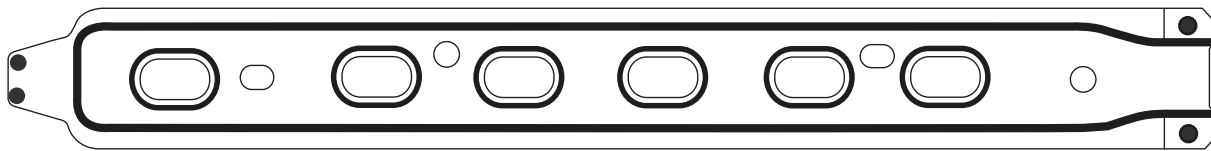

FIGURE 1
- Four (4) black dots represent the location of the blind rivets (W707638-S900C) (refer to Figure 1).